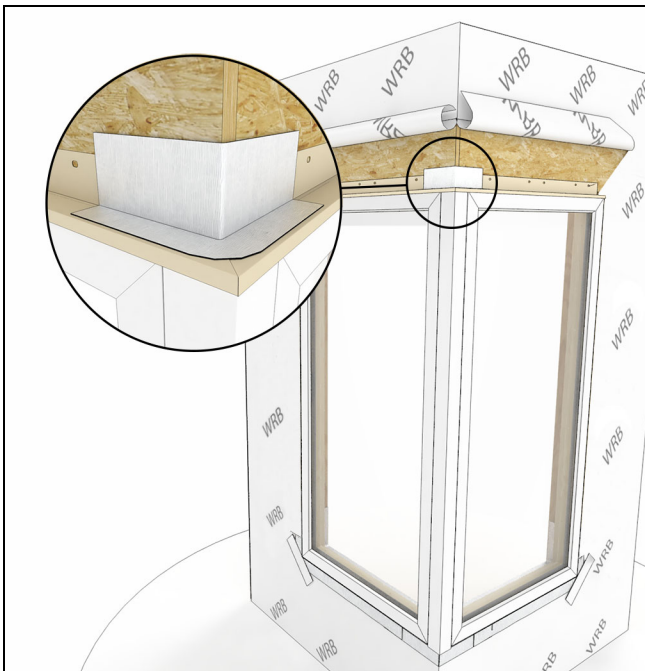

Figure 57
1. Adhere a 3" (76) high x 8" (203) wide piece of flexible flashing over the top corner of the drip cap. See Figure 57.